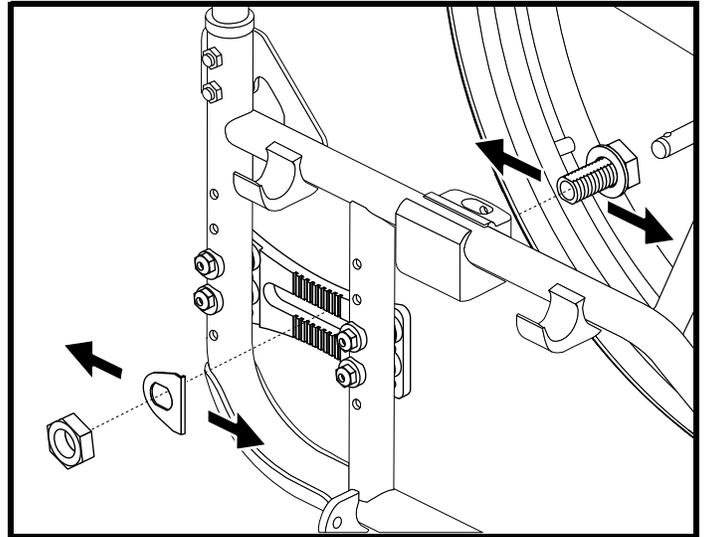

Figure 16. Drive Wheel Position Adjustment
2. Remove the center bolt and nut from the axle bracket. **See figure 16.**